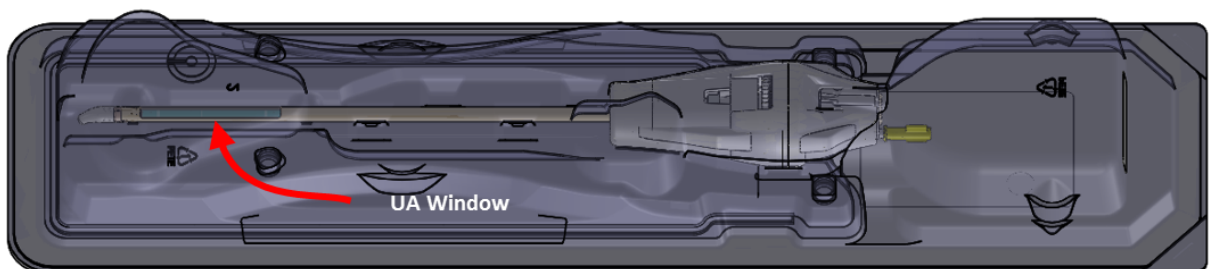

Figure 11: Examine the UA window for air bubbles
- d. Look through the package and carefully inspect the UA window for bubbles (Figure 11). There should be **no** bubbles of **any** size. If you see bubbles, gently tap the package-end close to the UA window against the work surface to dislodge them. If you still see bubbles, repeat the procedure, starting from step "a".